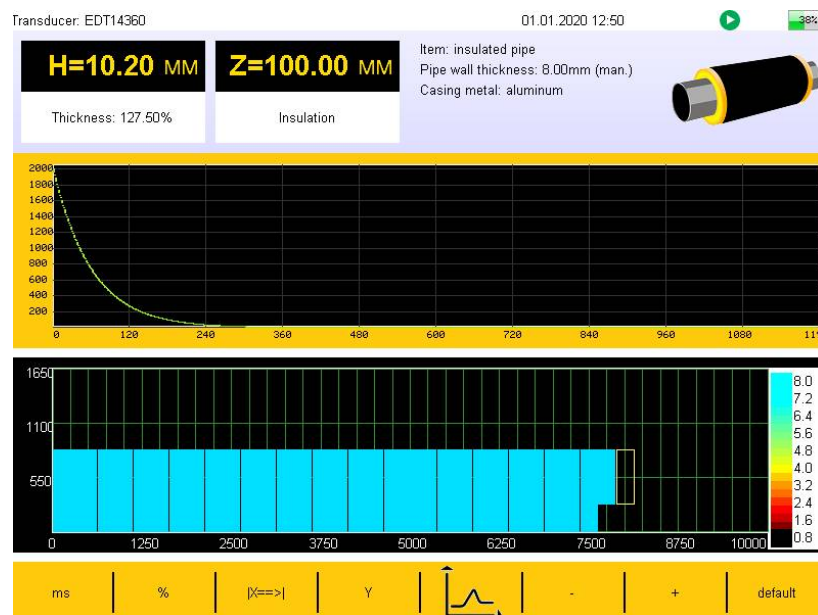

Figure 32. Change of A-scan size along the horizontal axis
– enables to change the horizontal axis scale. By pressing the  key under the  icon once, you can change over the A-scan window to the mode of changing the maximum value along this axis. This window is shown in Figure 32.